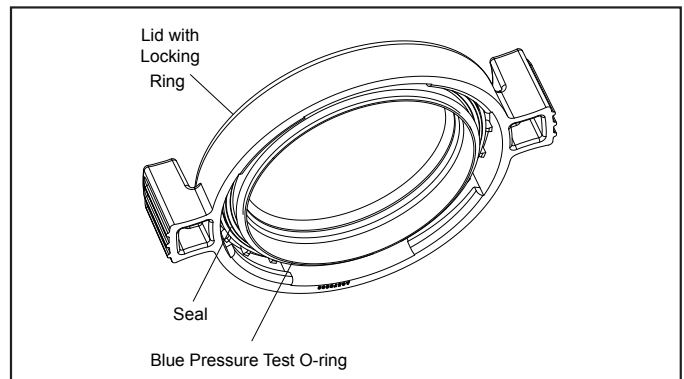

Figure 14. Blue Pressure Test O-ring
IMPORTANT: All VSSHP models come with an additional disposable o-ring for pressure testing. This is the blue pressure test o-ring (See Figures 14 and 15). If you opened the pump lid before conducting the pressure test, the blue o-ring may fall out. If the blue o-ring falls out, it must be re-installed on the lid before beginning the pressure test (See 3.6.2).
2. Place the blue o-ring on the step located ¼" from the bottom of the lid. See Figure 14.